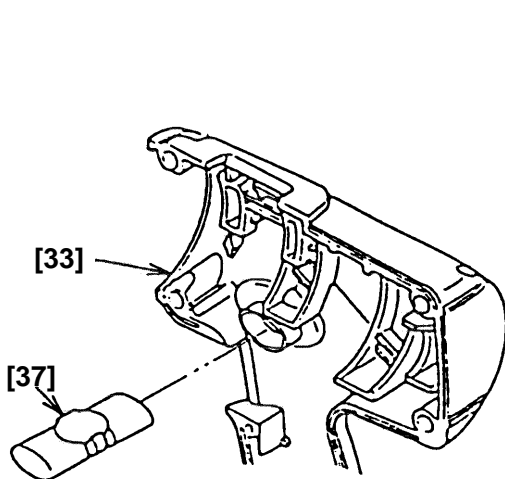

Fig. 13
(4) Installation of the assembly reassembled in step (3) into the Housing (A) and (B) [33].
(a) Install the Pushing Button [37] into the Housing (B) [33]. (See Fig.13.)